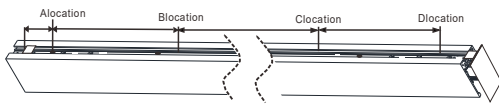

figure9.1
1. Before the installation of lifting magnetic track, please refer to the track installation hole location map and hole size spacing table, and then to the installation area for positioning and installation; (See FIG. 9.1/ Table 9.1) (Please refer to FIG. 1.1 for installation instructions of the conductive connector for 4.0).
1. Before the derrick installation, please refer to the lifting wire installation location Figure 9.1 and the installation table 9.1 (refer to the external power supply installation instructions figure 1.1 for the installation of the conductive connector).